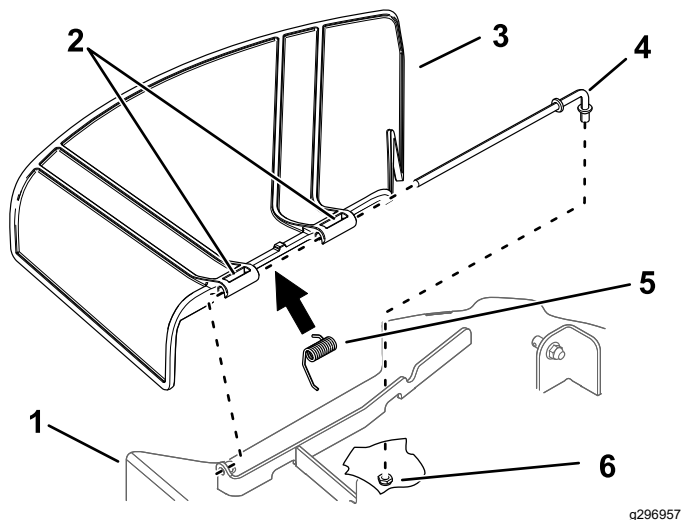

Figure 66
1. Remove the nut (3/8 inch) from the rod under the mower (Figure 66).
2. Slide the rod out of the short stand-off, spring, and grass deflector (Figure 66).
4. Install the new grass deflector (Figure 66).